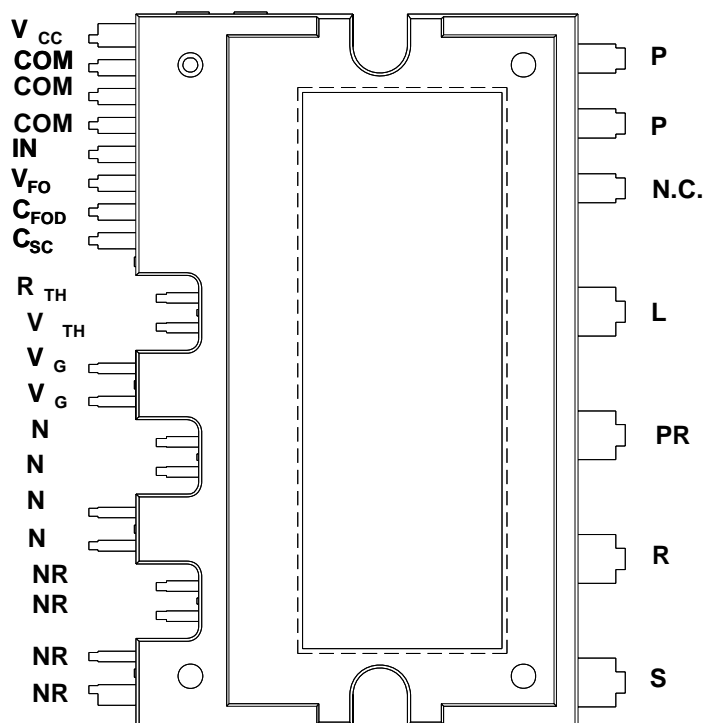

Fig. 2.
2. For the measurement point of case temperature(T_C), please refer to Fig. 2.